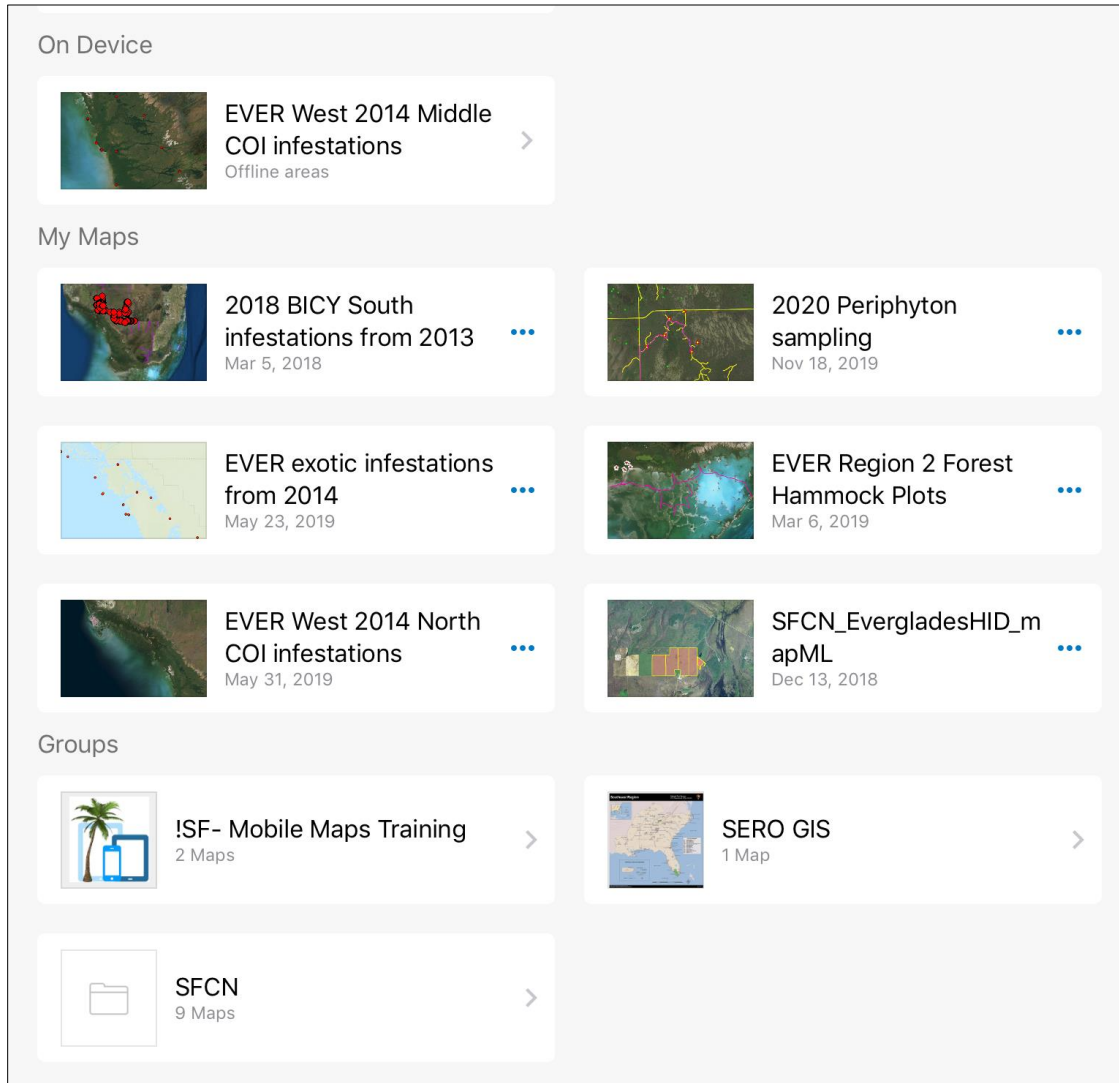

Figure 11. The “Maps” page on the Collector for ArcGIS app displays the offline map under the On Device section.
7. The offline map product will begin to download (Figure 11), and it may take a while to complete. Once it finishes downloading click back to go to the Maps page. The offline map will now appear under the 'On Device' section (Figure 11). The offline map is ready to be used. It can be viewed on the Collector for ArcGIS app without a data card or WiFi.